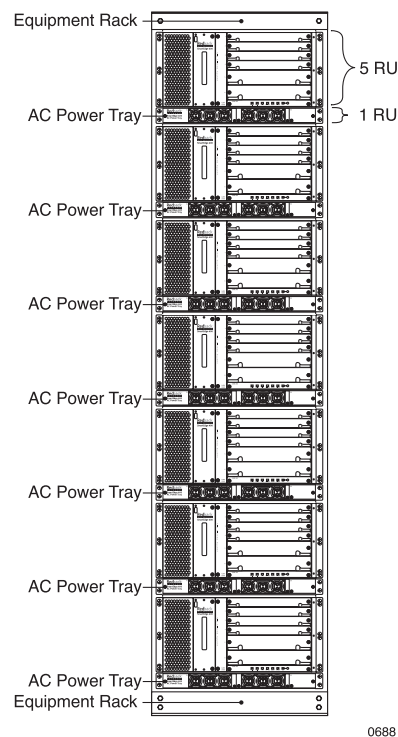

Figure 1 Fully Loaded 45 RU Rack Configuration
You can mount the SmartEdge 400 chassis in a standard 19- or 23-inch rack. If you use a standard 7-foot 45 rack unit (RU) rack, you can install up to nine SmartEdge 400 chassis in a single rack for maximum density; see Figure 1. If you install an optional AC power tray with each chassis, you can install up to seven chassis in a single rack. If density is not a consideration, you can mount the chassis in a standard 42 RU rack.